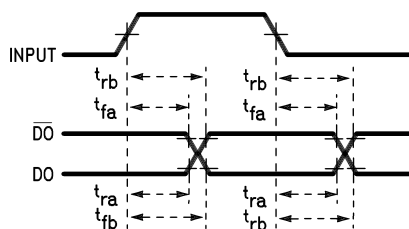

Figure 8. Driver Delay ATE Testing
(1) Differential Delays are defined as calculated results from single ended rise and fall time measurements. This approach in establishing AC performance specifications has been taken due to limitations of available Automatic Test Equipment (ATE). The calculated ATE results assume a linear transition between measurement points and are a result of the following equations: $T_{cr} = \frac{(T_{fb} \times T_{rb}) - (T_{ra} \times T_{fa})}{T_{rb} - T_{ra} - T_{fa} + T_{fb}}$ Where: T_{cr} = Crossing Point T_{ra} , T_{rb} , T_{fa} and T_{fb} are time measurements with respect to the input. See Figure 8.